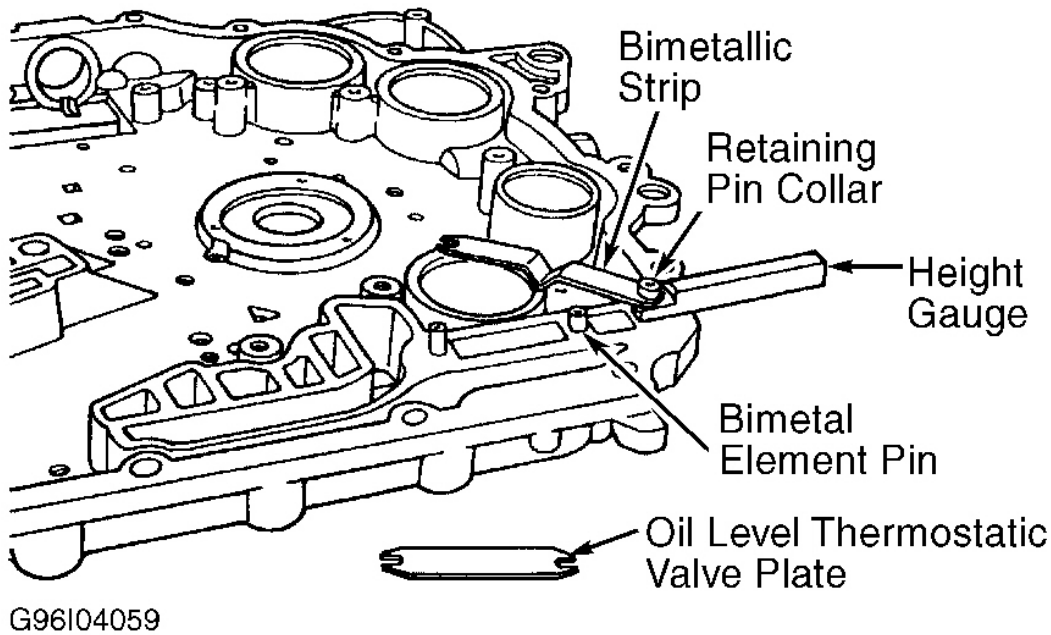

Fig. 25: Setting Bimetallic Strip Height
2. Position end of bimetallic strip with hole over front retaining pin. Place Height Gauge (T86P-70422-A) against pin between bimetallic strip and case. Gently tap bimetallic strip retaining pin collar onto pin until it seats against bimetallic strip. See **Fig. 25** .
3. Remove Height Gauge. Engage slotted end of bimetallic strip under rear retaining pin. Use Height Gauge and gently tap collar onto pin. Remove slotted end of bimetallic strip from pin. Position oil level thermostatic valve plate onto rear and middle retaining pins. See **Fig. 9** and **Fig. 25** . Place slotted end of bimetallic strip under retaining collar.